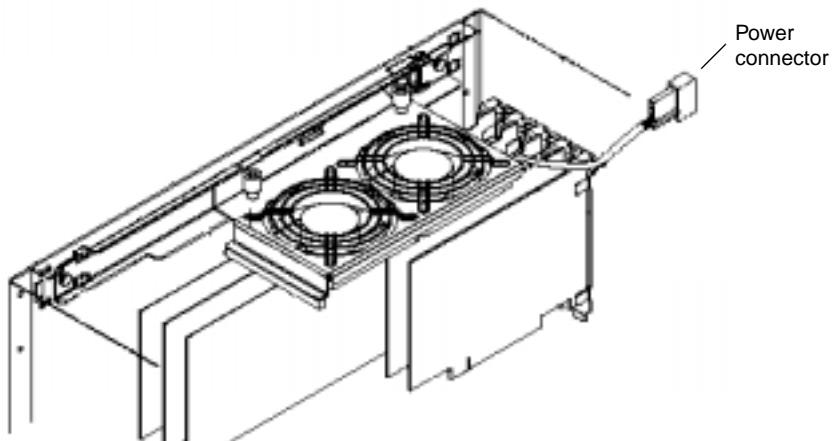

Figure 4-17 Power Connector
7. Plug the 12-V power connector from the fan assembly into one of the 12-V power connectors used for drives at the top front of the chassis (see Figure 4-17).